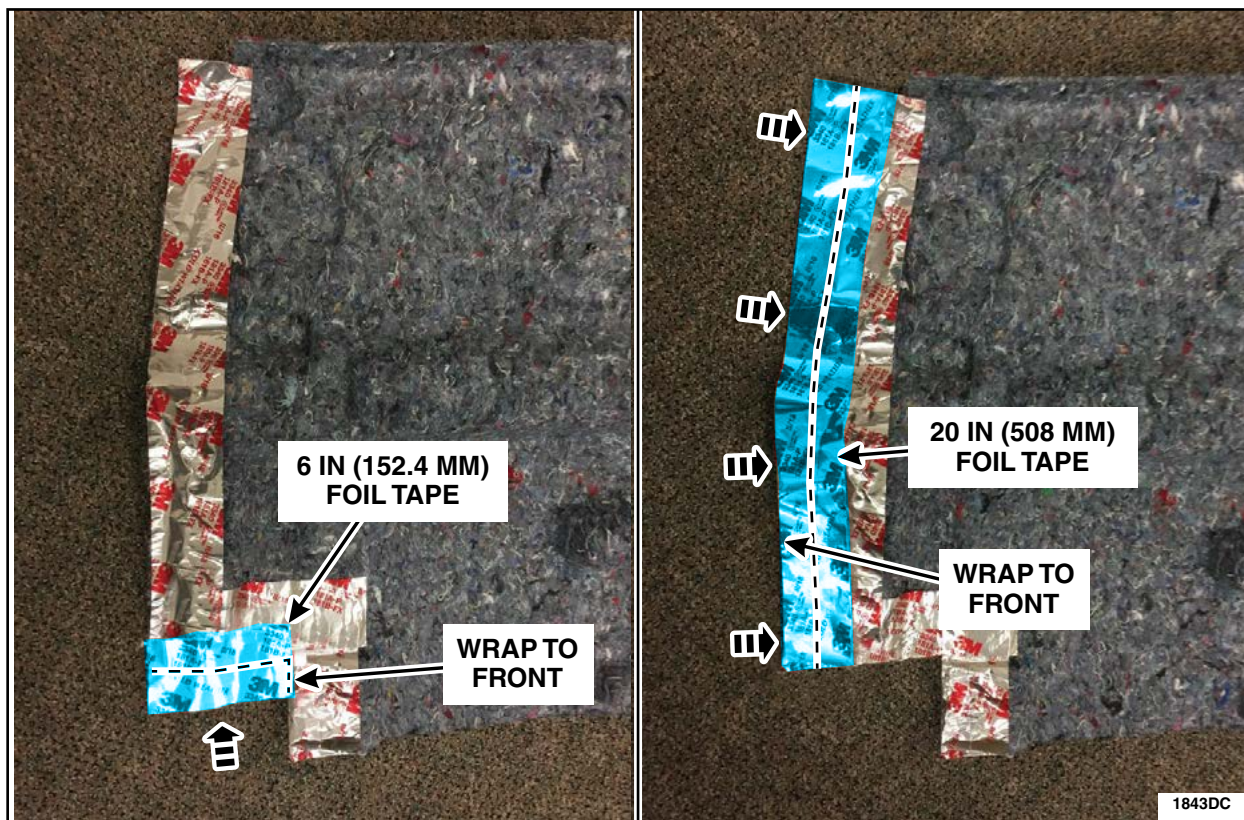

FIGURE 12
6. Remove the paper backing of the 6 in (152.4 mm) foil tape. Apply the foil tape by aligning the edge of the tape with the edge of the cut out notch, overlapping the previously applied foil tape by 1 in (25.4 mm). Wrap the foil tape to the front side of the panel. See Figure 12.
7. Remove the paper backing and apply the second 20 in (508 mm) foil tape to the rear surface of the panel overlapping the previously applied foil tape by 1 in (25.4 mm). Wrap the foil tape to the front side of the panel. See Figures 12 and 13.